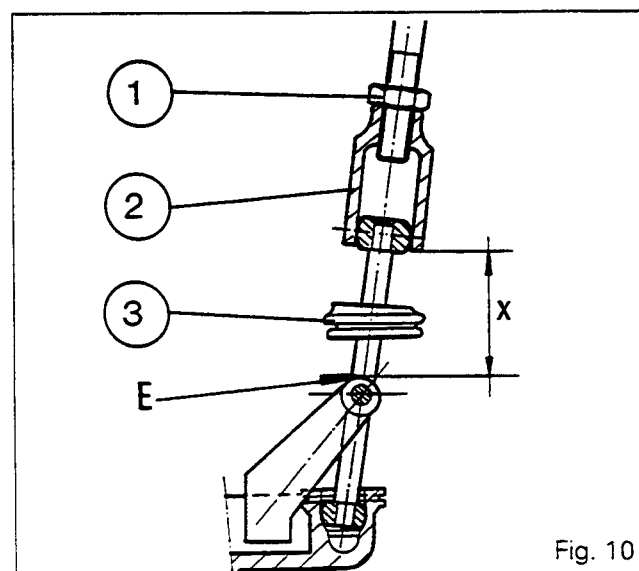

Fig. 10
50. Unlock nuts (1). Adjust the sleeves (2) so as to obtain a dimension X between the base of the sleeve and shoulder "E" on each lever (see Fig. 10). Tighten the nuts to a torque of 50 Nm and position the dust cover (3).